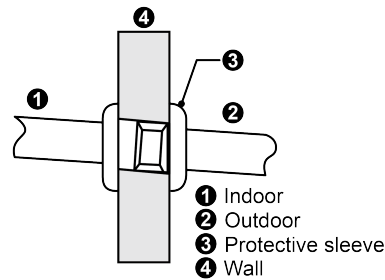
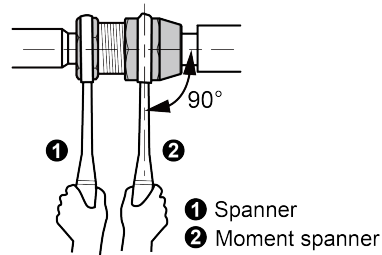

Figure 4-1 Refrigerant connecting pipe through the wall
Figure 4-2 Fastening the connecting pipe
(1) If the water tank and the outdoor unit need to be connected by punching through a wall, a hole of  $\Phi 55$  mm must be drilled in the wall and the hole should be inclined toward the exterior wall, as shown in Figure 4-1. Protective sleeves need to be put on both sides of the hole.
(2) Bind up the connecting pipes, power cord, water temperature sensing package, and communication lines (if necessary) of the wired controller with thermal insulation bands, and then lead them through the hole.
(3) Remove the refrigerant pipe joint from the water tank and the sealing nuts from the small and large valves of the outdoor unit, and add refrigerant oil on the joint and valve cones.
(4) Remove the sealing caps of the connecting pipe. Align the center of the bell mouth with the pipe joint and valve cone, and screw up the conical nut with your hand and then with a wrench, as shown in Figure 4-2.